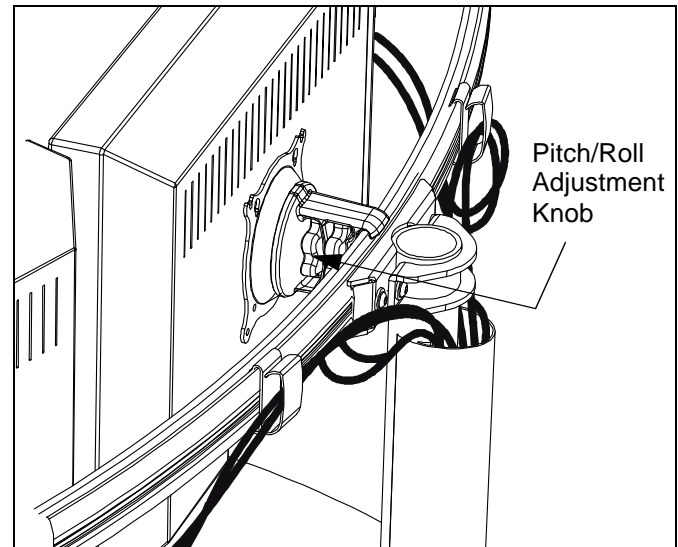

Figure 12
- Loosen Centris bracket front adjustment knob. (See Figure 12)